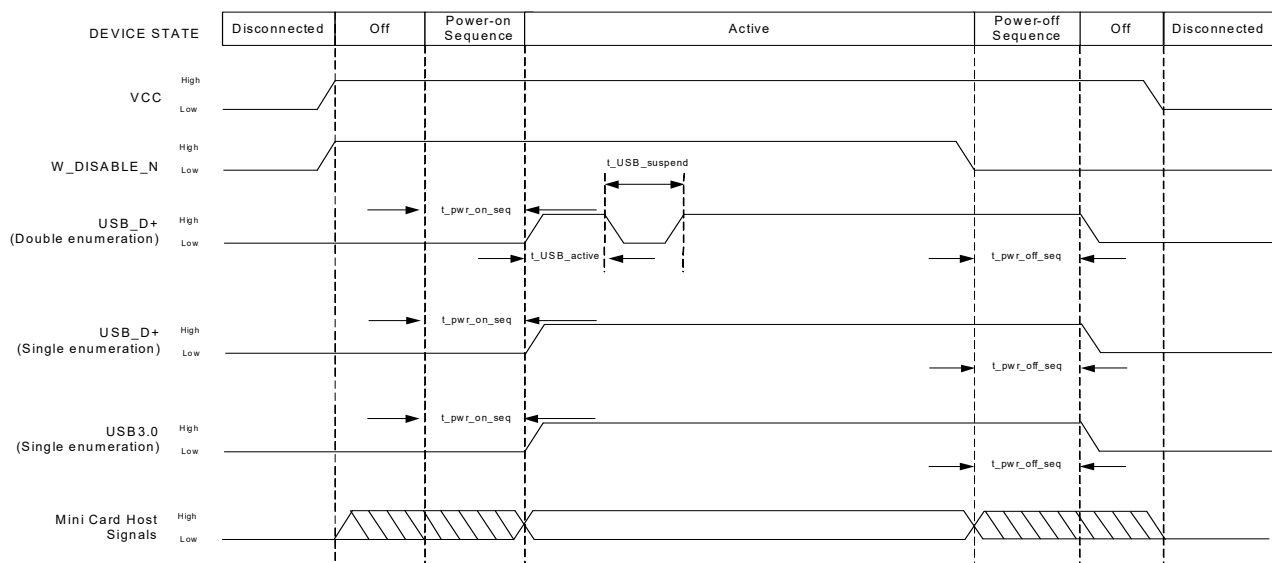

Figure 4-2: Signal Timing ( $W\_DISABLE\_N$ , and USB Enumeration)
Figure 4-2 describes the timing sequence for powering the module on and off.
- Double enumeration — As shown in Figure 4-2 on page 43: